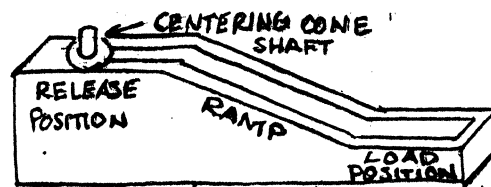

Figure 7-6. Centering Cone Shaft Ramp
- d. Insure centering cone shaft remains at top of ramp when handle is in release position (Figure 7-6).